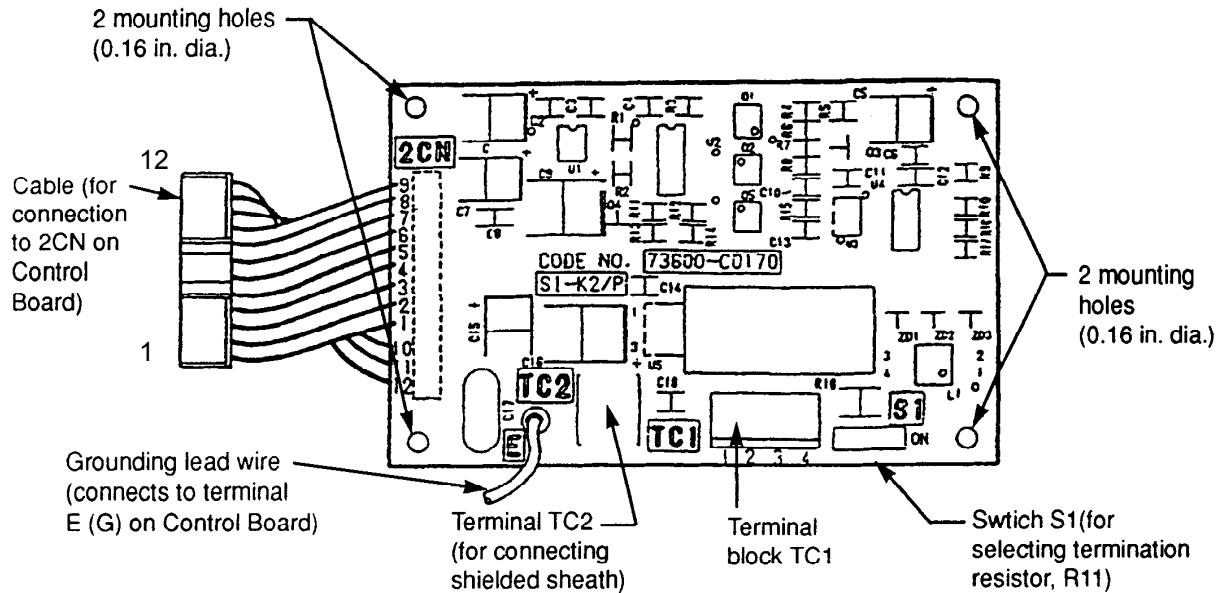

Figure 1-1. The CM086 Board
| | Figure 1-1. The CM086 Board | 1-3 |
- Figure 1-1. The CM086 Board
1. Locate terminal block at TC1 on the CM086 board. (See Figure 1-1 in this manual.) TC1 should have 4 terminal locations (1, 2, 3 and 4) on it.